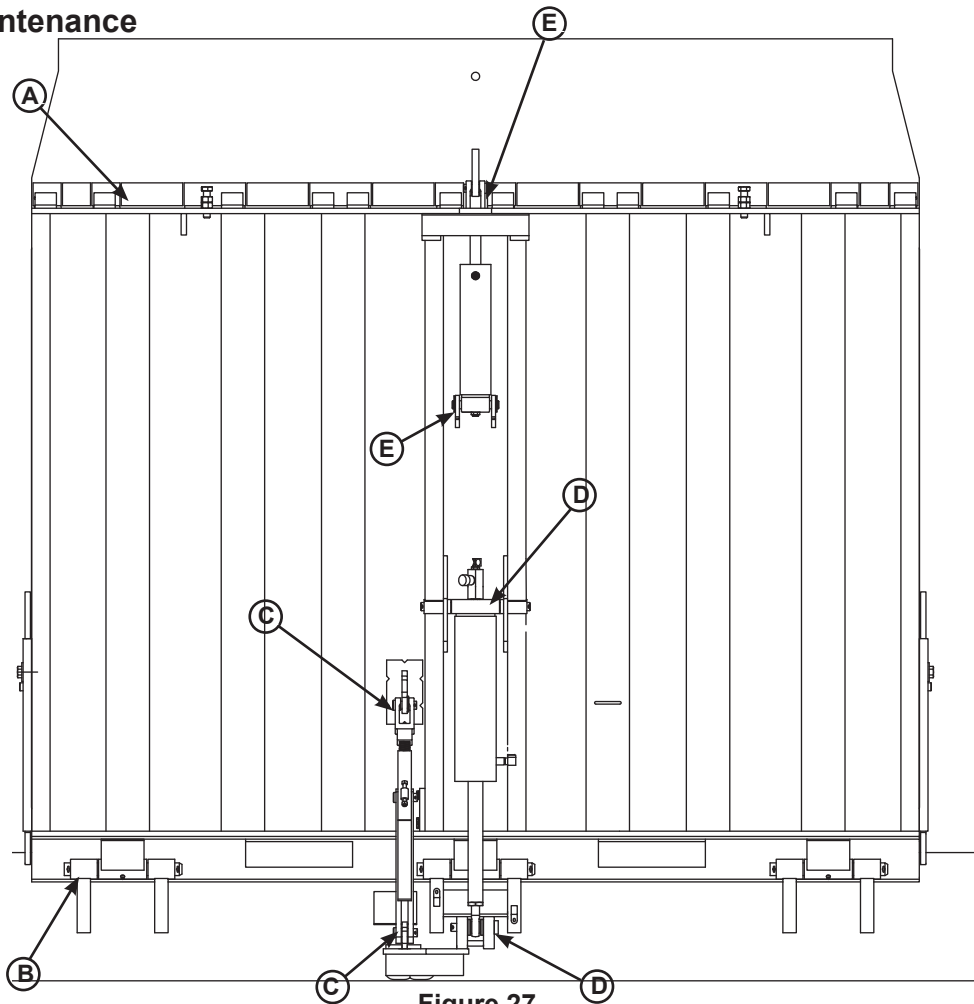

Figure 27
- Lubricate the following areas with light weight machine oil (see Figure 27):
- (A)— Lip hinge area (apply oil to the top of the entire length of lip hinge when platform is in the stored position and lip is folded)
- (B)— Platform hinge area (apply oil to top of all platform hinges when platform is in the stored position)
- (C)— Storage prop pins
- (E)— Lip cylinder pins
- (D)— Hoist cylinder grease fitting and pin